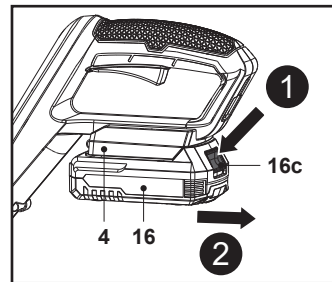

Fig. 3
2. Press the release button (16c) and remove the battery pack (16) from the battery docking port (4) (Fig. 3).